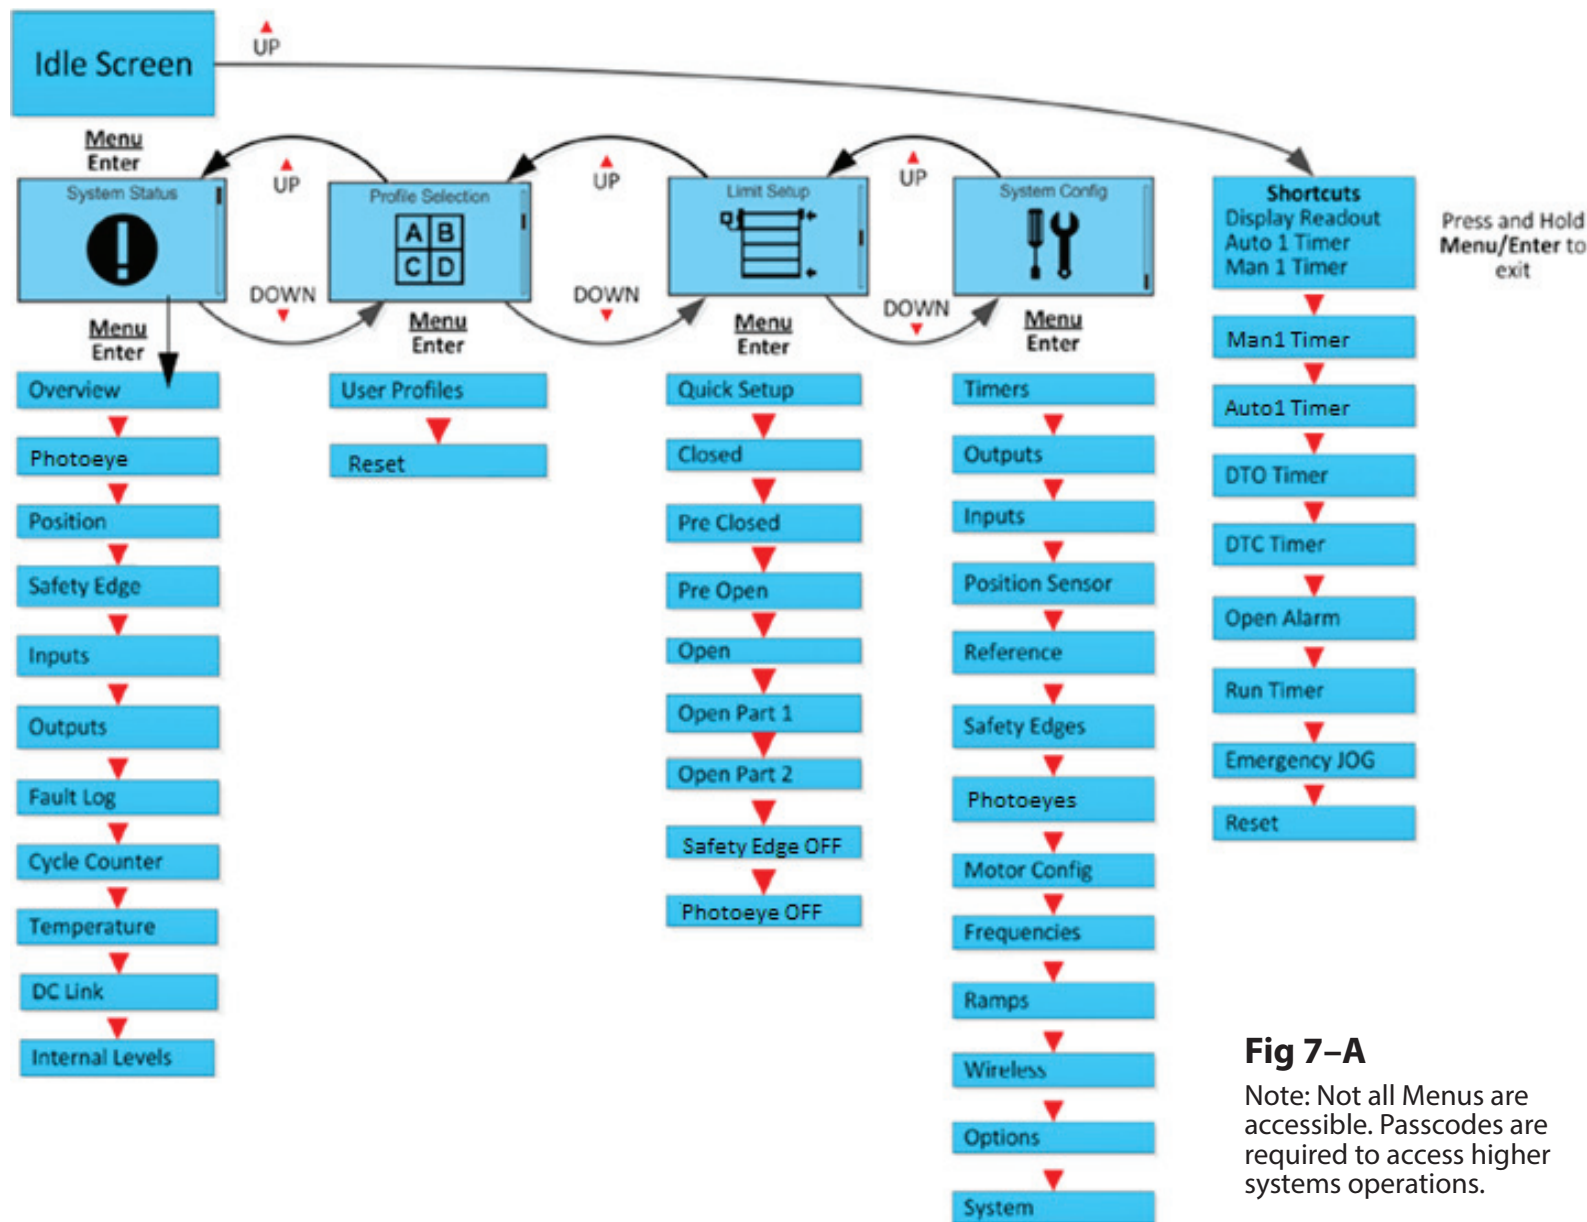

Fig 7-A
A. To enter the Menu, press and hold the OPEN, STOP, CLOSE membrane buttons for 3 seconds. A count down timer on the top left corner of the LED screen will display the remaining time left to hold. Refer to **Fig 7-A** on page 26 for the complete menu structure.